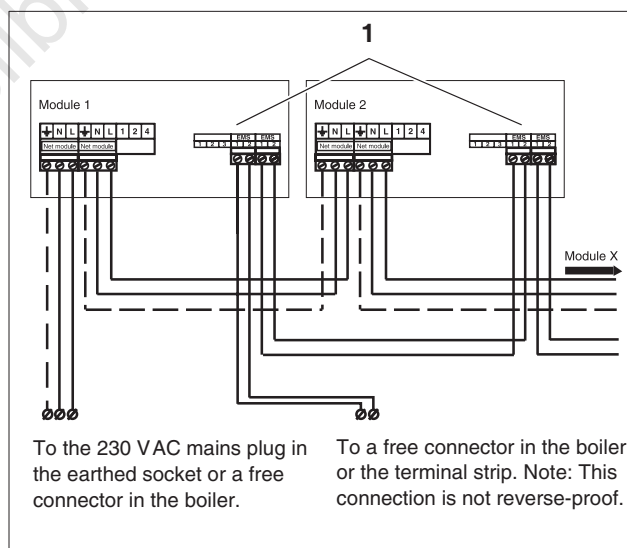

fig. 66 Connecting several modules
- Connect the other end of the EMS bus connection cable to the first module (fig. 66).
The module may have the letters RC or EMS above the connection (fig. 66, item 1).
- Connect the EMS bus connection lead of the first module to the next module (fig. 66).
- Connect the 230 VAC mains cable to the module (fig. 66). If more modules are used, the 230 VAC supply to the next module can be branched off from the previous module using the connector enclosed with the module and a three-core 0.75-mm² current cable with an earthing wire.
- Connect the 230 VAC supply cable of the previous module to the next module (fig. 66).